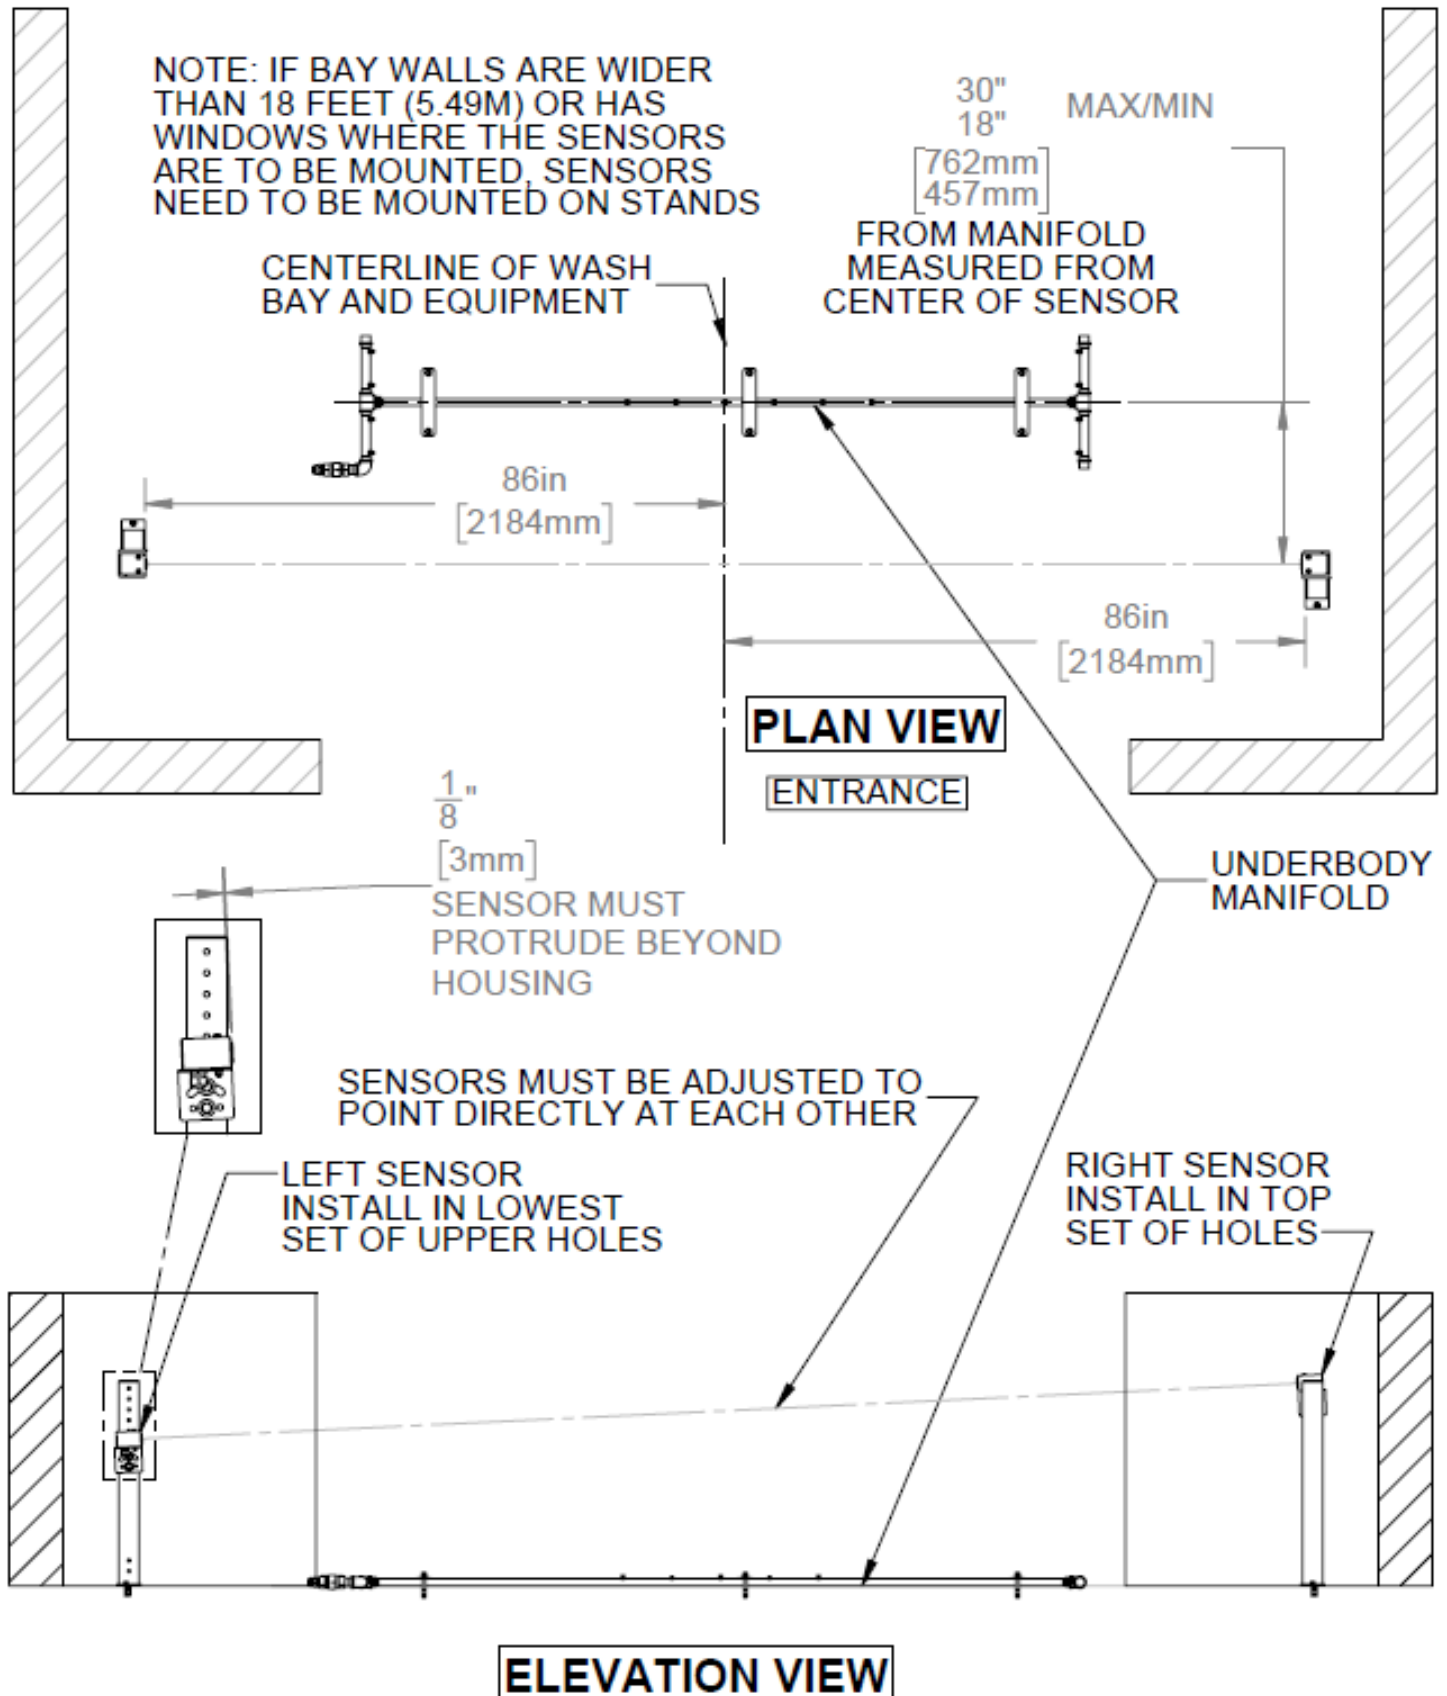

Figure 131 - Stand Mounted Ultrasonic Underbody Activation Sensor Location
- Figure 131 shows the preferred mounting positions for the stand mounted ultrasonic sensor assemblies.
- The stand mounted assemblies are provided with (2) 3/8" x 1 7/8" long sleeve anchors. If these anchors are not appropriate for the floor material, the site is responsible for providing appropriate anchors.
- Mount the sensor assemblies to the floor while taking note of the direction of the strain relief for the sensor cable. Be sure this is pointed downward. Ensure the sensor face protrudes from the cover as shown in Figure 131.
- Adjust the position of one of the sensor assemblies (left-hand side as shown in Figure 131) so that it is in the lowest set of upper holes.